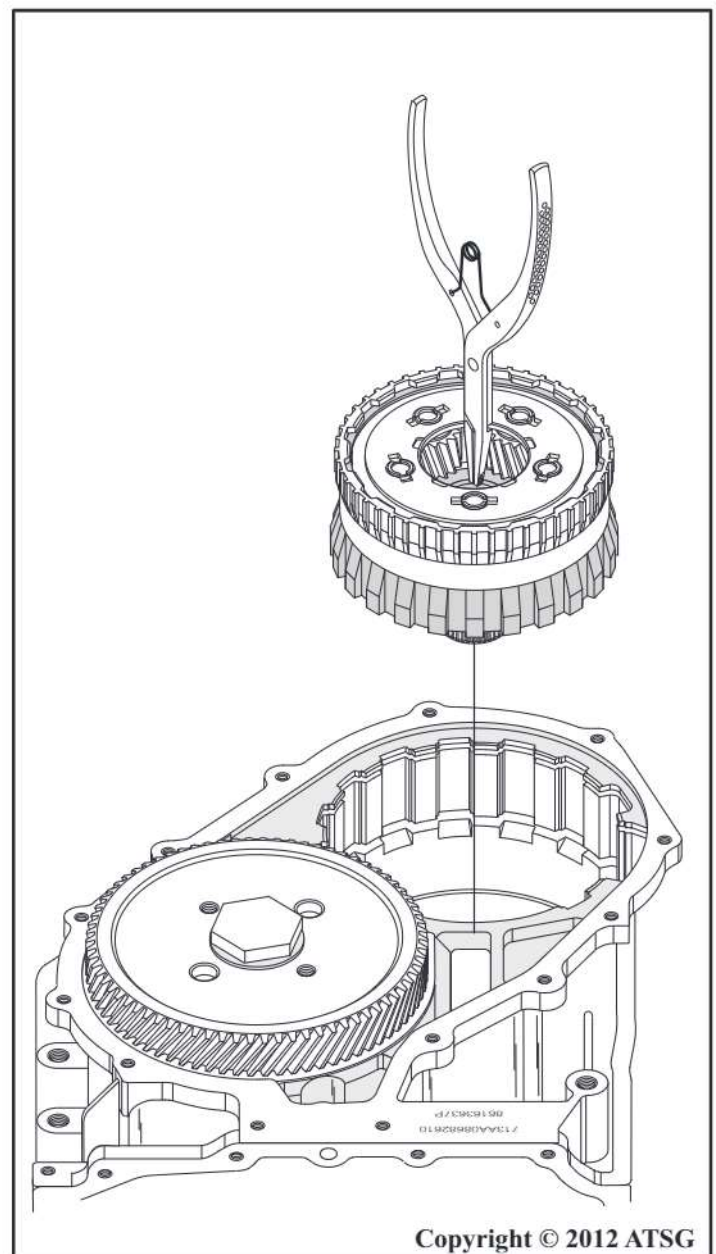

Figure 228
1. Set the pre-assembled transaxle case assembly up on the bell housing, as shown in Figure 228.
2. Install the output planetary carrier assembly, as shown in Figure 228, using a pair of snap ring pliers and ensure it is fully seated.